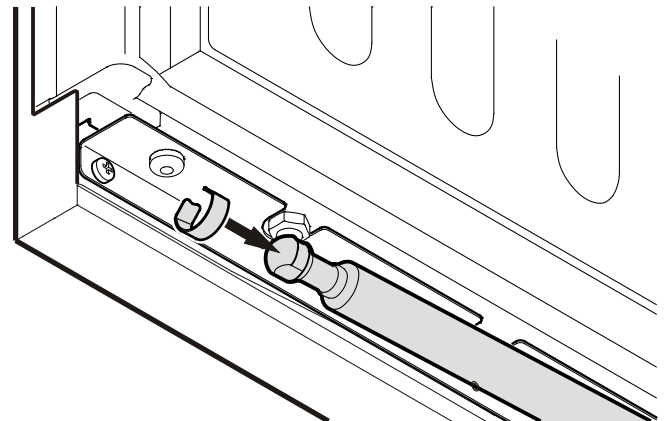

Figure 28
12. Attach the retaining clamp to the ball housing of the soft-stop cylinder **Figure 28**.